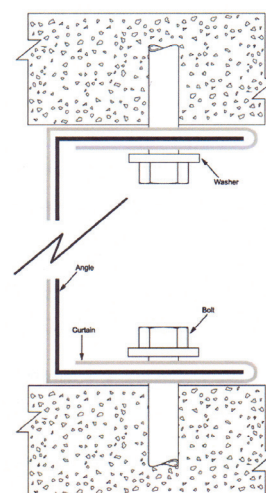

Figure 1
2. Fold edge of curtain around a mild steel framing angle with dimensions of 40 mm x 50 mm x 0.8 mm <>1 mm. As shown in figure 1.
5. Secure the top perimeter framing angle, followed by fixing and side perimeter angles, as specified above. N.B. The curtain must cover three sides of the angle, as shown in Figure 1.